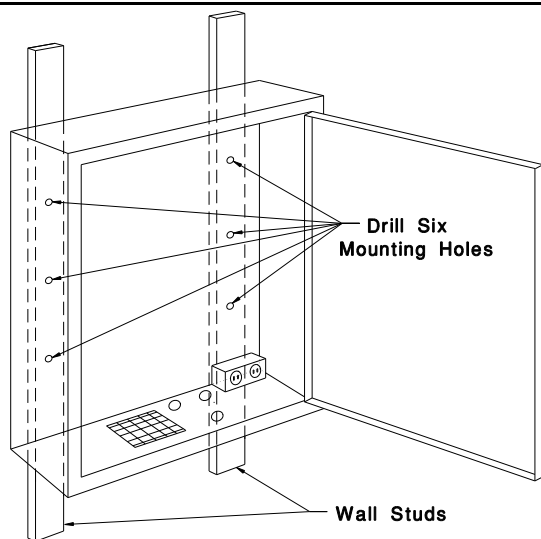

Figure 5 - Installation To Wall
1. Measure distance between the center of wall studs where station is being mounted as shown in Figure 5. (Be sure the wall can support full weight of station.)
3. Drill six (6) 1/4 inch mounting holes in cabinet.